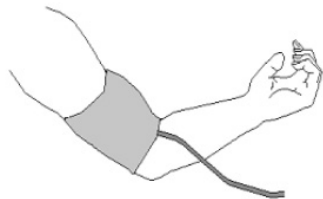

Figure 2.5 Cuff position
2. Applying the cuff: unfold the cuff and wrap it around the upper arm evenly to the appropriate tightness. The correct cuff position is shown in figure 2.5.